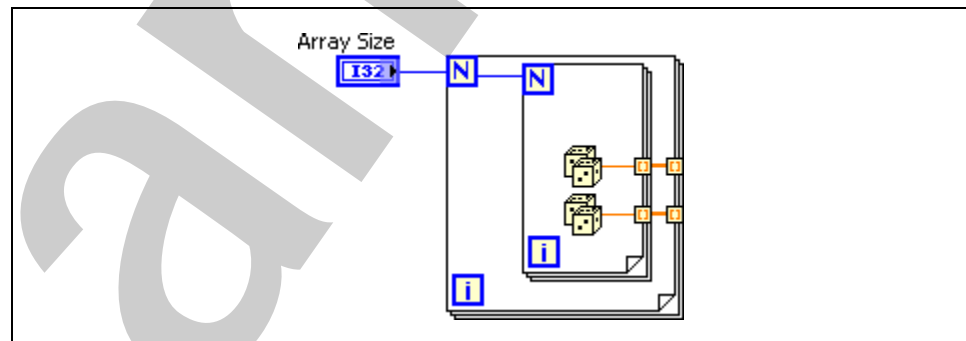

Figure 2-1. CPU Info with Parallel For Loop VI – First Set of For Loops
2. Create a block diagram containing a 2D array Specified by an Array Size control, as shown in Figure 2-1, using the following items:
- To the right of the nested For Loops shown in Figure 2-1, add the following items to create the structure shown in Figure 2-2: